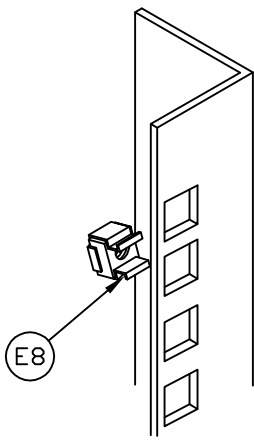

Fig. 4
A.) Place bottom of Cage Nut through square hole from back side of rail (see detail at right) allowing the lower portion of the Cage Nut to grip the rail. See Fig. 4